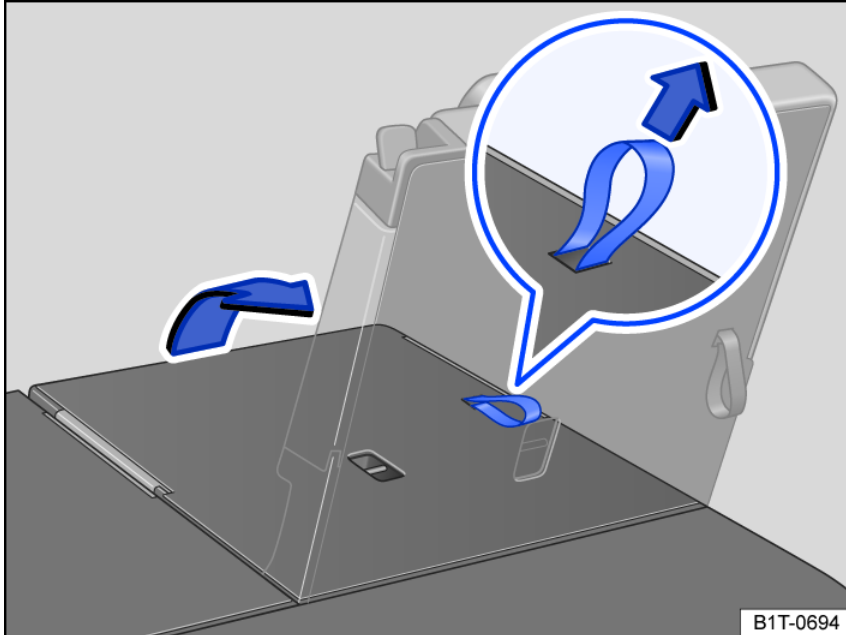

Fig. 82 Third row seat: folding the rear seat back.
- Pull on the loop on the rear seat backrest *fig. 82* to fold the rear seat backrest back. **OR:** fold the rear seat backrest back from the passenger compartment.
- The red marking on the release lever *fig. 82* must not be visible.